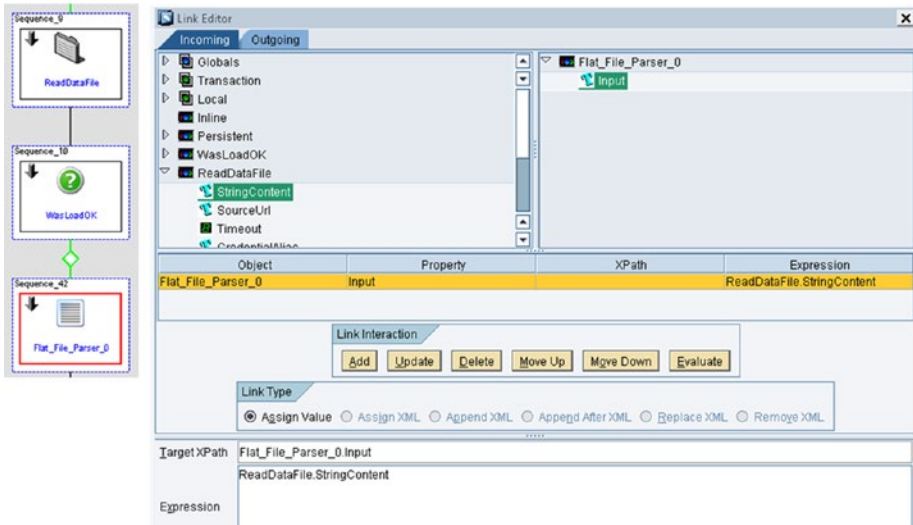

Figure 6-88. Flat File Parser action block
- *Flat File Parser action block:* It takes as input a Comma Separated Values (CSV) file and converts it to the SAP MII XML format of / rowsets/rowset/row. To use this action block, you have to load a text file loader before calling the flat file parser. The string content of the text loader also needs to be mapped to the input of flat file parser. See Figure 6-88.